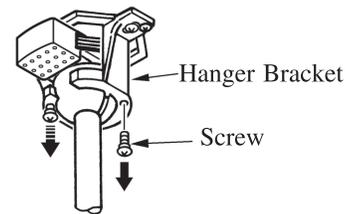

FIG.7
3. Remove one screw and loosen the other screw from the hanger bracket. (See fig.7)